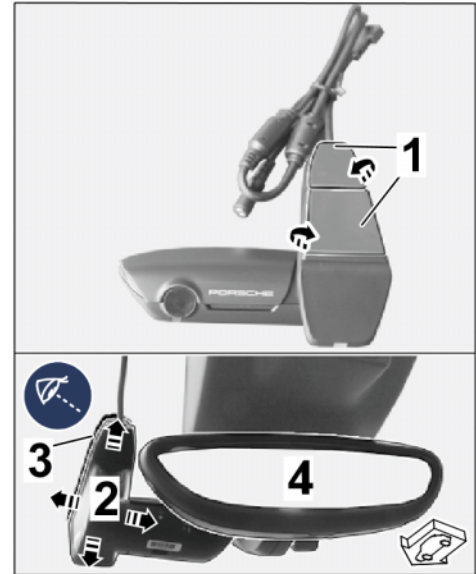

Figure 10
2.2.4 Pull protective film off the front camera retainer plate (⇒ *Figure 10-Top-*).
Align front camera with retainer plate symmetrically with respect to the 3M privacy film on the windshield (⇒ *Figure 10-Bottom-*).